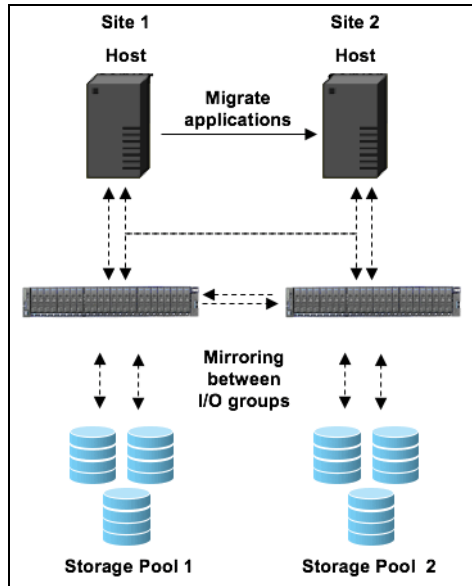

Figure 5-8 Overall HyperSwap diagram
HyperSwap is a system topology that enables high availability (HA) and disaster recovery (DR) (HADR) between I/O groups at different locations. Before you configure HyperSwap volumes, the system topology must be configured for HyperSwap and sites must be defined. Figure 5-8 shows an overall view of HyperSwap that is configured with two sites.